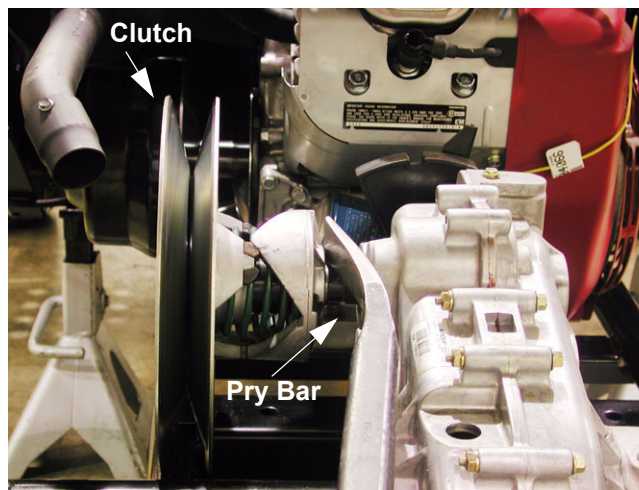

Figure 5.3
- 5.3. Slide the pulley off of the input shaft. It may be necessary to carefully pry on the pulley hub. See Figure 5.3.